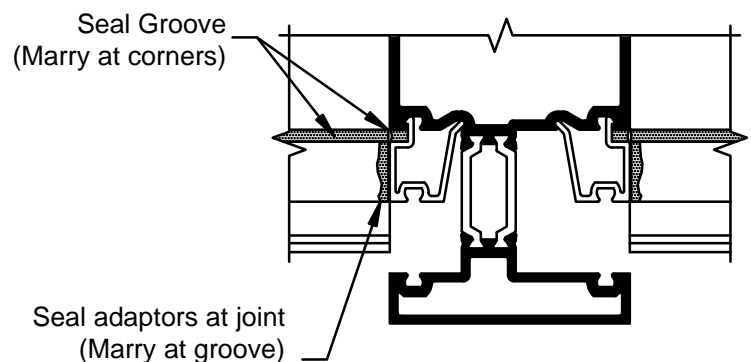

FIGURE 35
- A.2 Install horizontal adaptors maintaining an equal gap at each end. Once all adaptors have been installed in the opening, seal all corner joints. Run a bead of sealant in the groove formed between the adaptor and mullions. This seal must be continuous around the opening and must marry with the seal at the corner joints. SEE FIGURE 35.